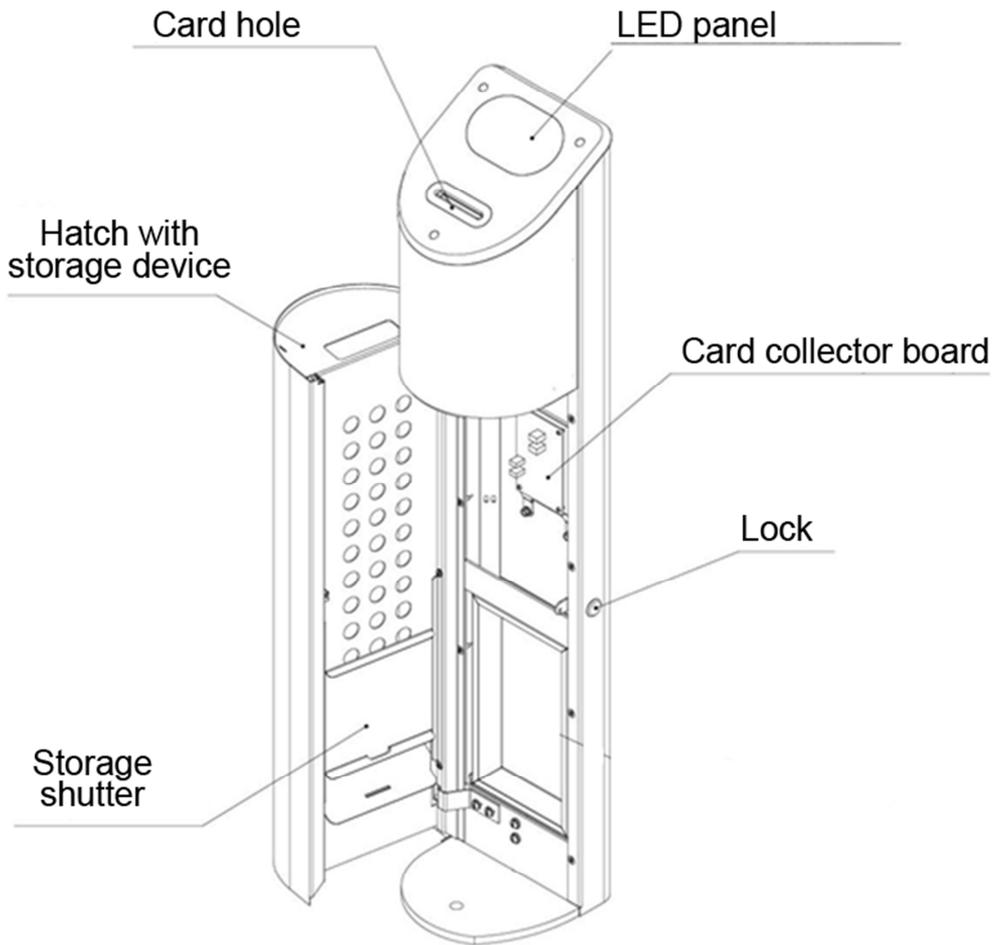

Fig 4. *General view of the card collector*
Card collector (Fig. 4) is designed for collection and storage of proximity access cards at the exit from the facility. Flexible logic of the controller allows the integration of the card reader with any access control systems.
- 7.3.1. Open the hatch lock of card collector with a key (Fig. 4).
- Open the hatch of the card collector using the key (Fig. 4);